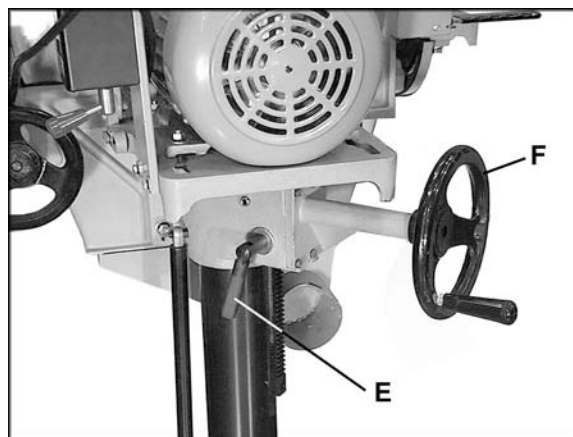

Figure 7
1. Loosen the lock handle (E, Figure 7) and adjust the table height by rotating the handwheel (F, Figure 7); clockwise to lower the table, counterclockwise to raise it.
2. When finished, re-tighten lock handle (E, Figure 7).